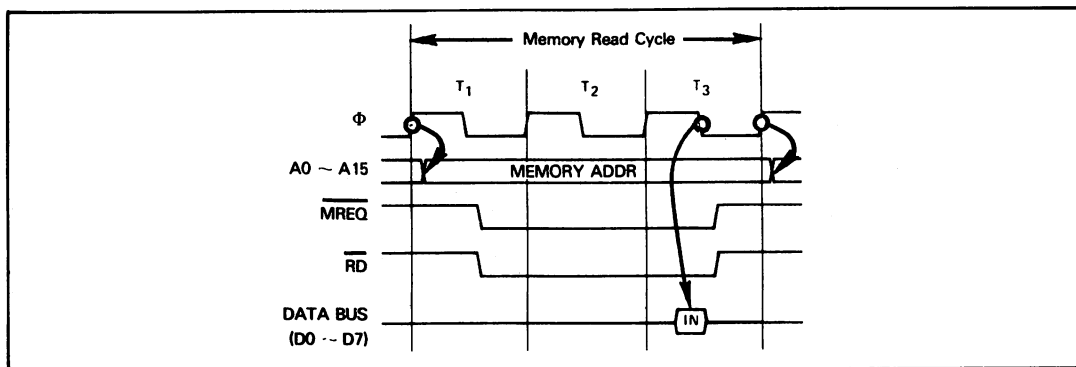

Figure 7-6. Z80 Memory Read Timing
**Memory interface logic responds to an instruction fetch and a memory read in exactly the same way. There are, however, a few differences between memory read and instruction fetch timing.** Memory read timing is illustrated in Figure 7-6. The principal difference to note is that during a memory read operation, the data is sampled on the falling edge of the T3 clock pulse, whereas during an instruction fetch it is sampled on the rising edge of this clock pulse. Also a normal memory read machine cycle will consist of three clock periods, while the normal instruction fetch consists of four clock periods. Remember also that the Z80 identifies an instruction fetch machine cycle by outputting  $\overline{M1}$  low during the first two clock periods of the instruction fetch machine cycle.